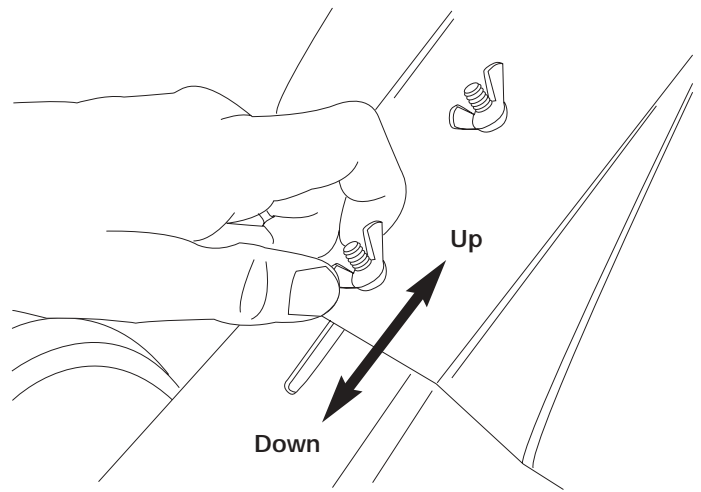

Fig. 14
2. Loosen (do not remove) the two wing nuts on the tine guard (Fig. 14).
2. Slide the wheel bracket assembly all the way down (Fig. 14).